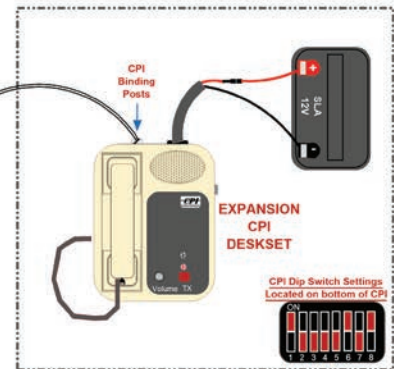

Figure 4:
- Verify the 4330EX desk set dip switches, located on the bottom of the EX CPI, are set to 5K High Impedance operation. (See Figure 4)
- Strip and attach the field wire to the binding post of the Expansion CPI desk set (not polarity dependent). (See Figure 4)